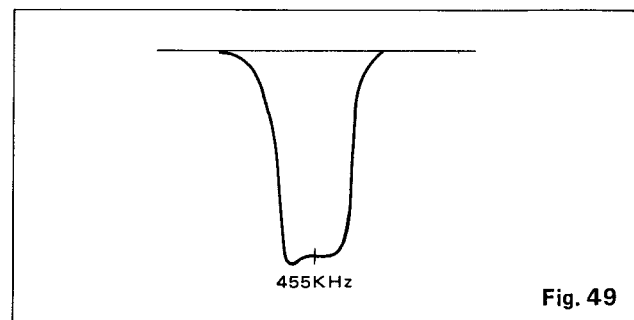

Fig. 49
1. By rotating the T803 and the T804 alternately, align the 455KHz marker until it is maximized and becomes vertically symmetrical in waveform (see Fig. 49).